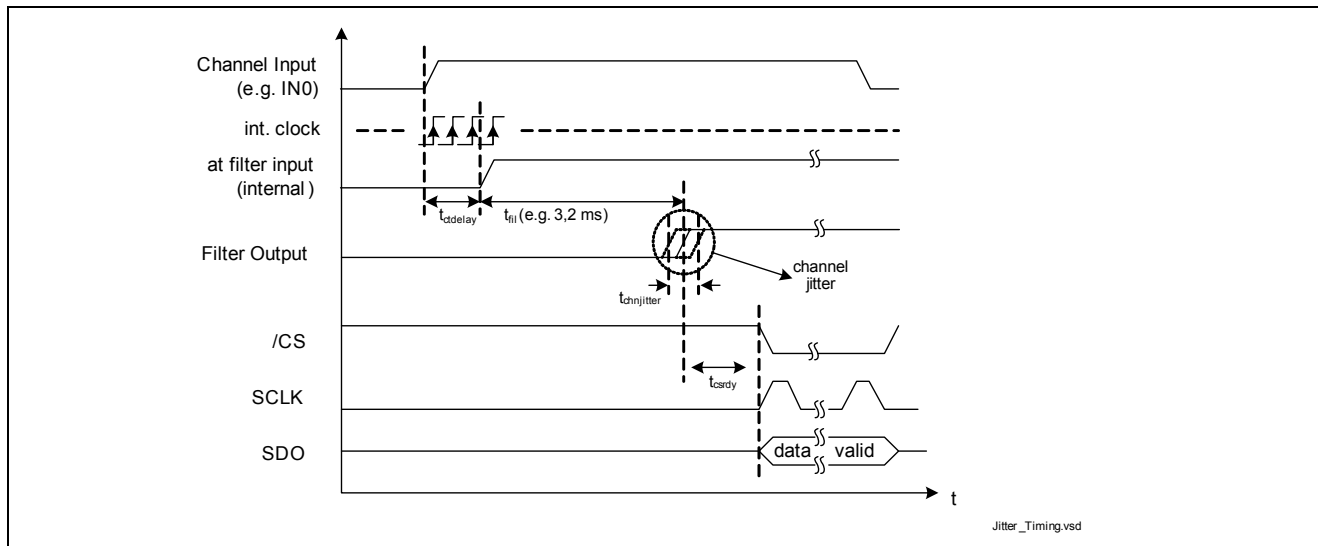

**Figure 17 Filter Time Programming and Update Timing**
**Figure 17** and **Table 17** describe the timing for changing filter-coefficients. Especially timing restrictions have to be obeyed implying a minimal processing time until the new configuration and the filtered data are valid and can e.g. be frozen with the pin SYNC. Changing the filter coefficients means resetting always the related filter.